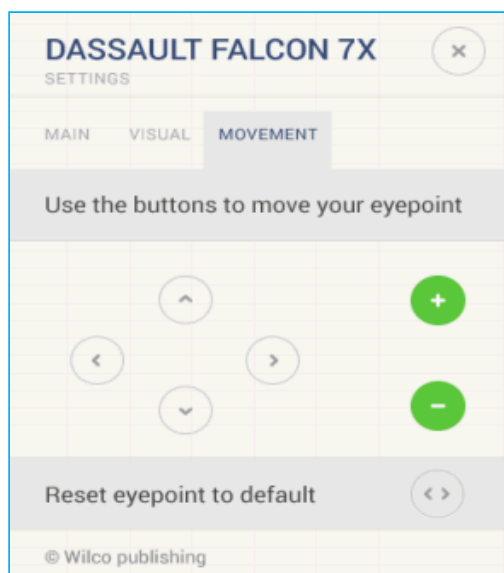

Figure 33 - INFO PAD MOVEMENT MENU
- Show External Power Unit– See Figure 33 - EXTERNAL VISUAL PARTS